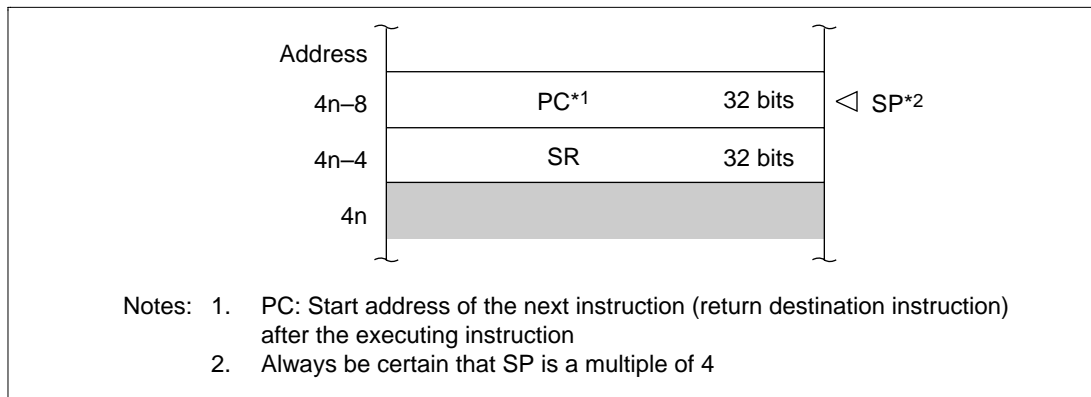

Figure 6.4 Stack after Interrupt Exception Processing
3. The interrupt controller compares the priority level of the selected interrupt request with the interrupt mask bits (I3–I0) in the CPU's status register (SR). If the request priority level is equal to or less than the level set in I3–I0, the request is ignored. If the request priority level is higher than the level in bits I3–I0, the interrupt controller accepts the interrupt and sends an interrupt request signal to the CPU.
4. The CPU detects the interrupt request sent from the interrupt controller when it decodes the next instruction to be executed. Instead of executing the decoded instruction, the CPU starts interrupt exception processing (figure 6.4).
6. The priority level of the accepted interrupt is copied to the interrupt mask level bits (I3 to I0) in the status register (SR).
Figure 6.4 shows the stack after interrupt exception processing.